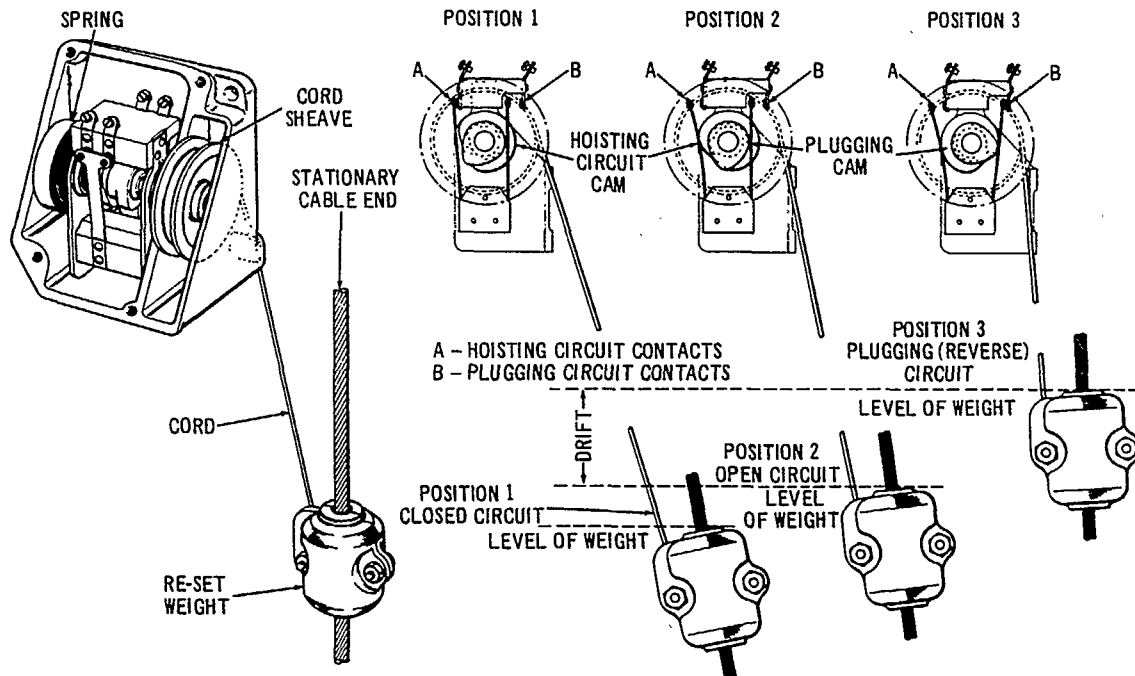

Figure 3-4. Weight Type Upper Limit Switch
WEIGHT TYPE UPPER LIMIT SWITCH (Figure 3-4). When the bottom block is in a normal operating position (below the preset upper limit), the re-set weight winds up the spring, positions the limit switch sheave against a stop. The cams are clear of the contact fingers (position 1) so that the hoist circuit contacts (A) are closed and plugging contacts (B) are open. When the bottom block approaches its preset upper limit it contacts the re-set weight,